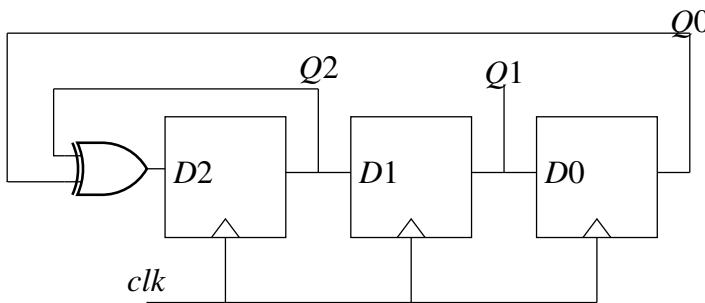

Fig. 5.5
5. In the circuit in Fig. 5.5, the clock(Clk) frequency provided to the circuit is 500MHz. Starting from the initial value of the flip-flop outputs  $Q2Q1Q0 = 111$  with  $D2 = 1$ , find the time after which  $Q2Q1Q0 = 100$ . (GATE EC 2021)